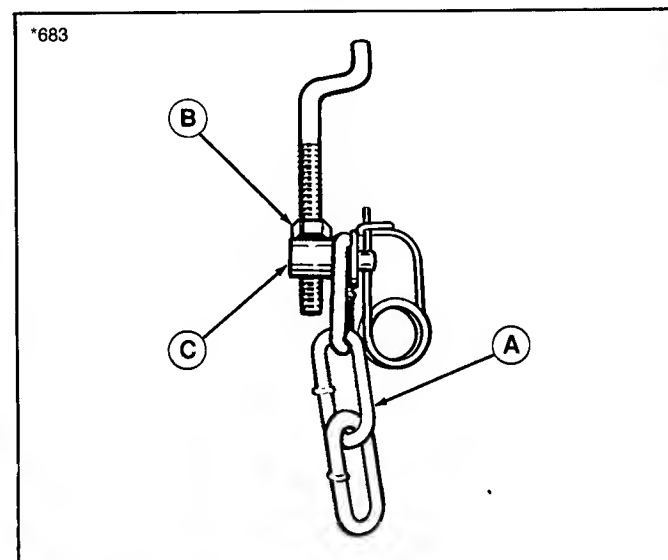

Figure 43. Lift Assembly - Large Lift Lever
4. To adjust, disconnect trunnion (C, figure 43) from lift chain. Loosen the nut, and turn trunnion to raise or lower mower. Tighten nut when measurement is correct.